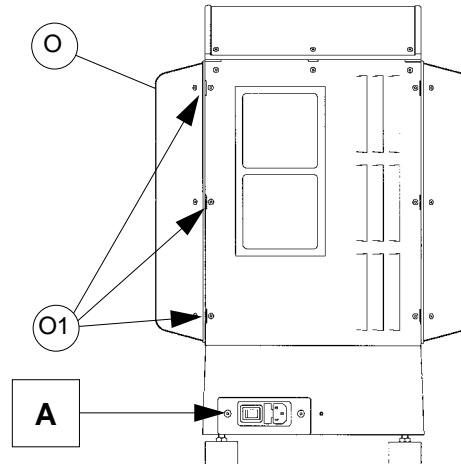

Fig. 32
- 2) remove the three screws (O1) (fig. 32 - rear view)